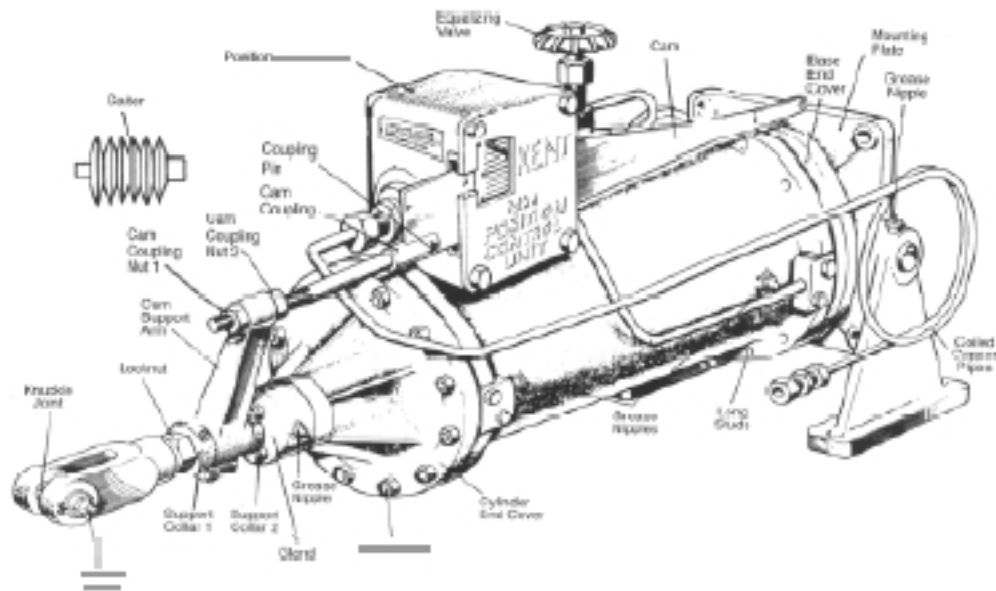

FIG. 4 POWER CYLINDER AND POSITION CONTROL UNIT
For trunnion mounted power cylinders the connections are made to the free ends of the coiled copper pipes connected to these unions. (Fig. 4).
Refer to Fig. 4 and proceed as follows:-
3.1 LUBRICATION (Fig. 4)
4.3 GLAND LEAKAGE (Fig. 4)
- d) Open the equalizing valve and move the piston by hand to one end of its stroke until it is felt to contact the end cover. Position the cam via the locking nuts until the follower roller is just on the operating profile of the cam i.e. at point A or point B as shown in Fig. 4.